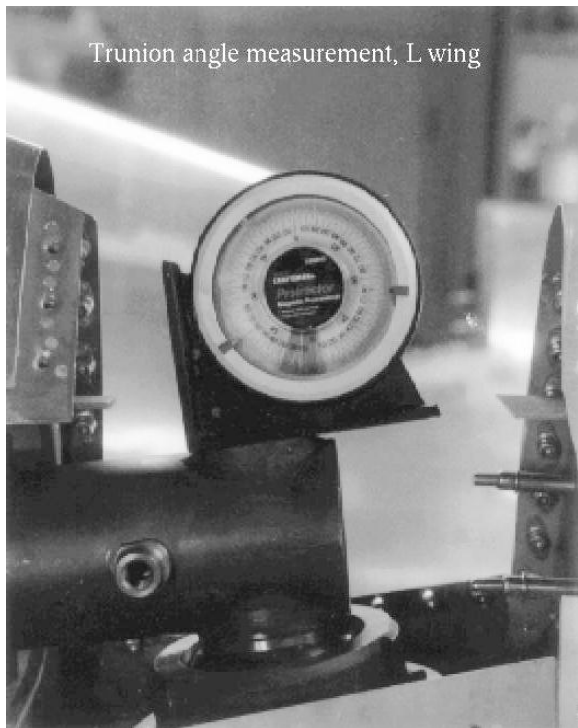

Figure 1.33. The easiest place to measure the trunion angle is at the forward end.
1. Measure the angle of the trunion with respect to vertical in both axes, as shown in Figure 1.33. By far the easiest place to do this is at the extreme leading edge of the trunion. For example, here the left trunion is about  $10^\circ$  off vertical in the plane of the wing and about  $9^\circ$  in the out of plane direction.